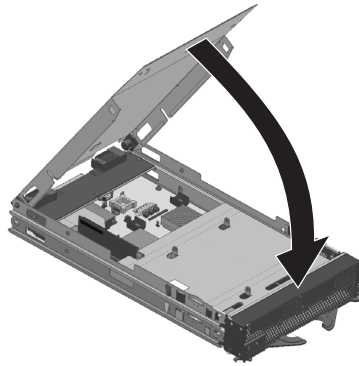

Figure 23. Closing the blade server cover
2. Close the inner cover. It clicks into place when it is closed, see Figure 23, step 1.
3. If you removed the blade bezel assembly, replace it now. See “Installing the blade server bezel assembly” on page 40 for instructions, and Figure 23, step 2.
4. If you removed the second power board, replace it now, see Figure 23, step 2.
7. Pivot the cover to the closed position as shown in the illustration, until it clicks into place, see Figure 23 on page 42, step 3.